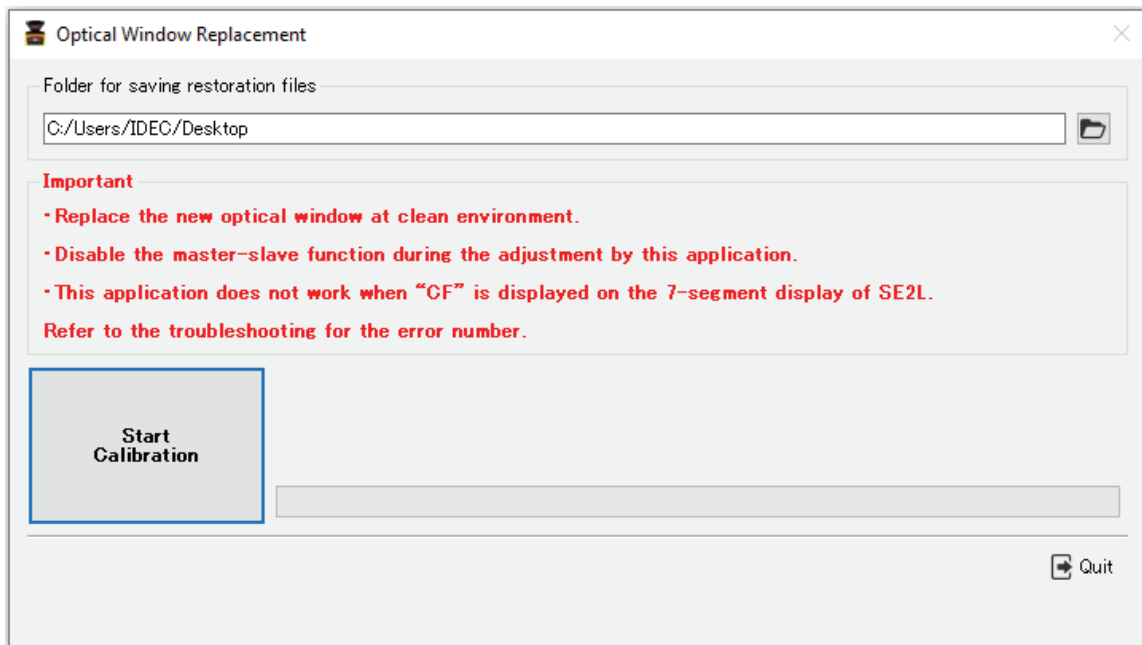

Figure 8-2 Optical Window Adjuster
- a) Connect SE2L with the Project Designer and switch the device to setting mode. From the menu, select [Options] → [Optical Window Replacement] to open the optical window replacement tool as shown in Figure 8-2.